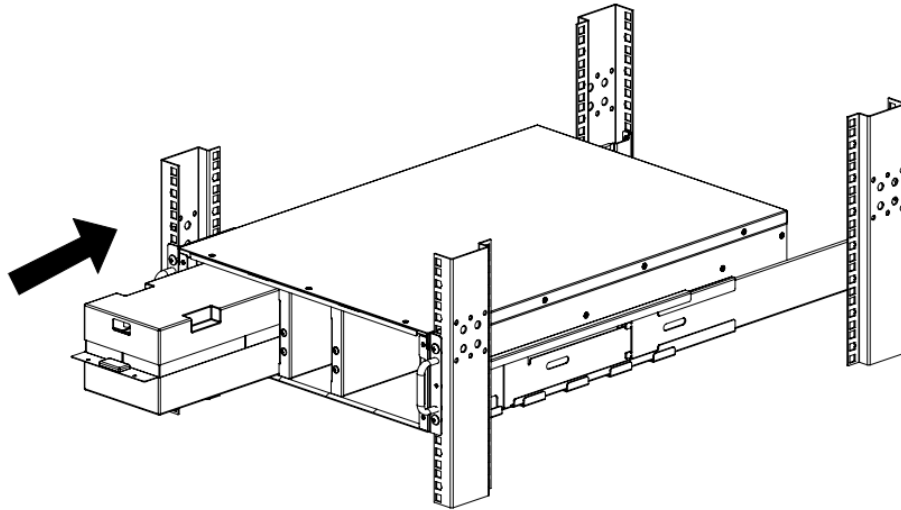

Figure 35: Reinsert the Battery Cartridges into the EBP Unit
27. Refer to the handling instruction, reinsert the battery cartridges into the EBP unit (see Figure 35).